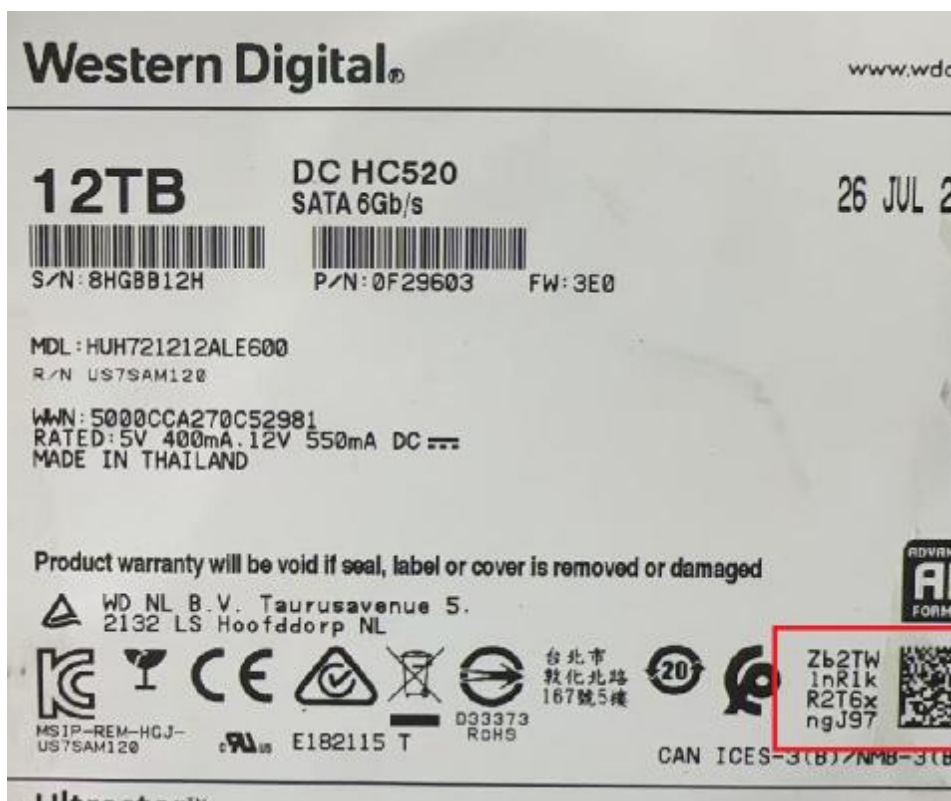

Figure 16: PSID Label
1. Scan the PSID from the drive label (Figure 16).